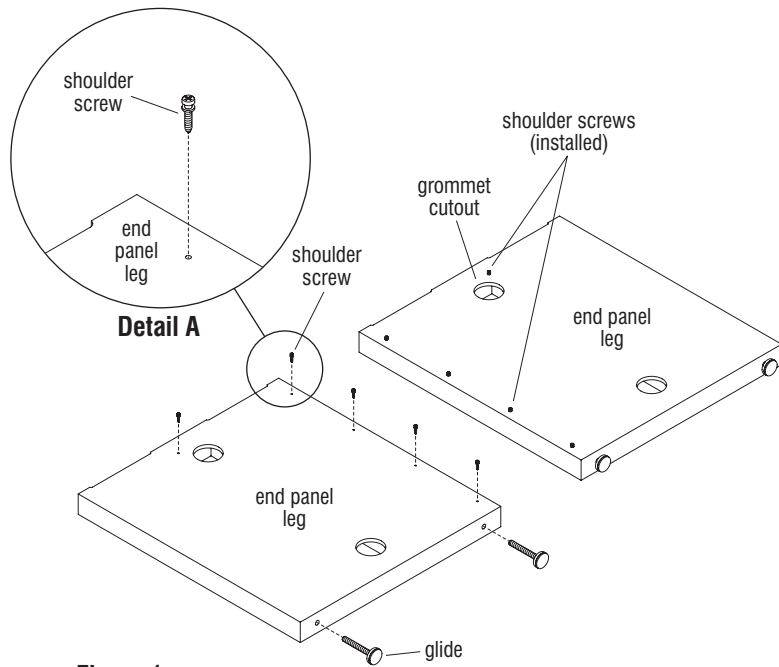

Figure 1
1. Carefully lay the end panel legs onto a soft, protective surface with the pre-drilled holes facing up (Figure 1).
2. Thread the stem of each glide into the threaded inserts at the underside of the end panel legs. Twist the glides in clock-wise, fully to the bottom of each end panel leg. This will allow adjustment of the table if required when placed in its final location (Figure 1).
3. Using a cordless power drill, secure a shoulder screw into each pre-drilled location on both end panel leg faces as illustrated in Figure 1. Take care to not over-tighten (Figure 1 & Detail A).